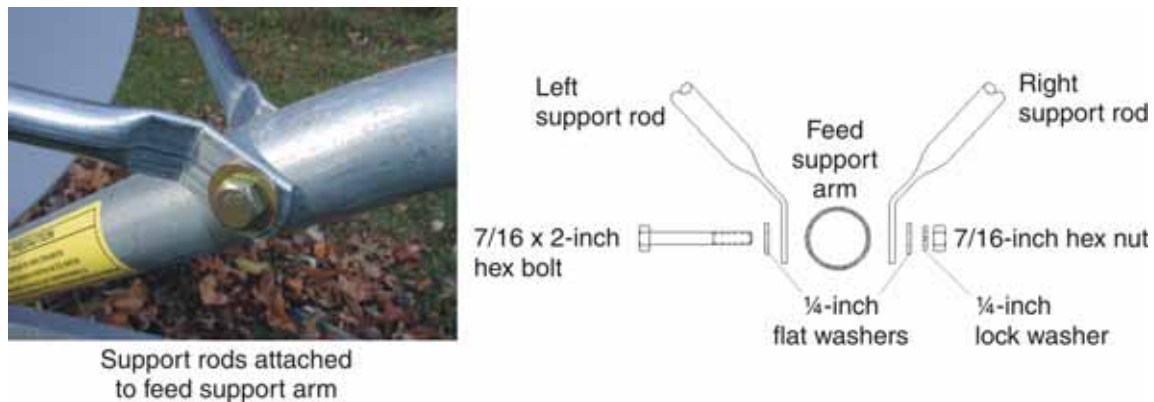

Figure 17: Attaching the support rods to the feed support arm
5. Attach the free ends of the support rods to the feed support arm as shown in Figure 17, using a single 7/16 x 1.25-inch bolt, lock washer, and flat washer.